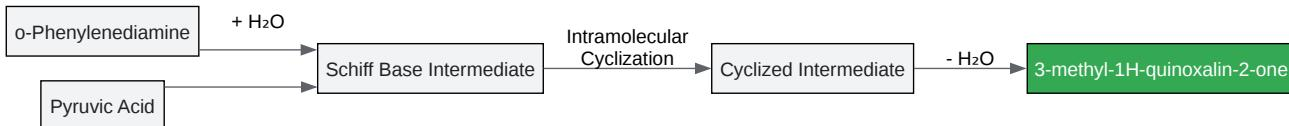

Fig. 1: Reaction Mechanism
- ResearchGate, Typical strategies for the synthesis of quinoxalin-2(1H)-ones. [URL: [https://www.researchgate.net/figure/Typical-strategies-for-the-synthesis-of-quinoxalin-21H-ones\\_fig1\\_382218776](https://www.researchgate.net/figure/Typical-strategies-for-the-synthesis-of-quinoxalin-21H-ones_fig1_382218776)]
- ResearchGate, Synthesis of quinoxaline using o-phenylenediamine with various diketone..., 2023. [URL: [https://www.researchgate.net/figure/Synthesis-of-quinoxaline-using-o-phenylenediamine-with-various-diketone-using-different\\_fig1\\_369929555](https://www.researchgate.net/figure/Synthesis-of-quinoxaline-using-o-phenylenediamine-with-various-diketone-using-different_fig1_369929555)]